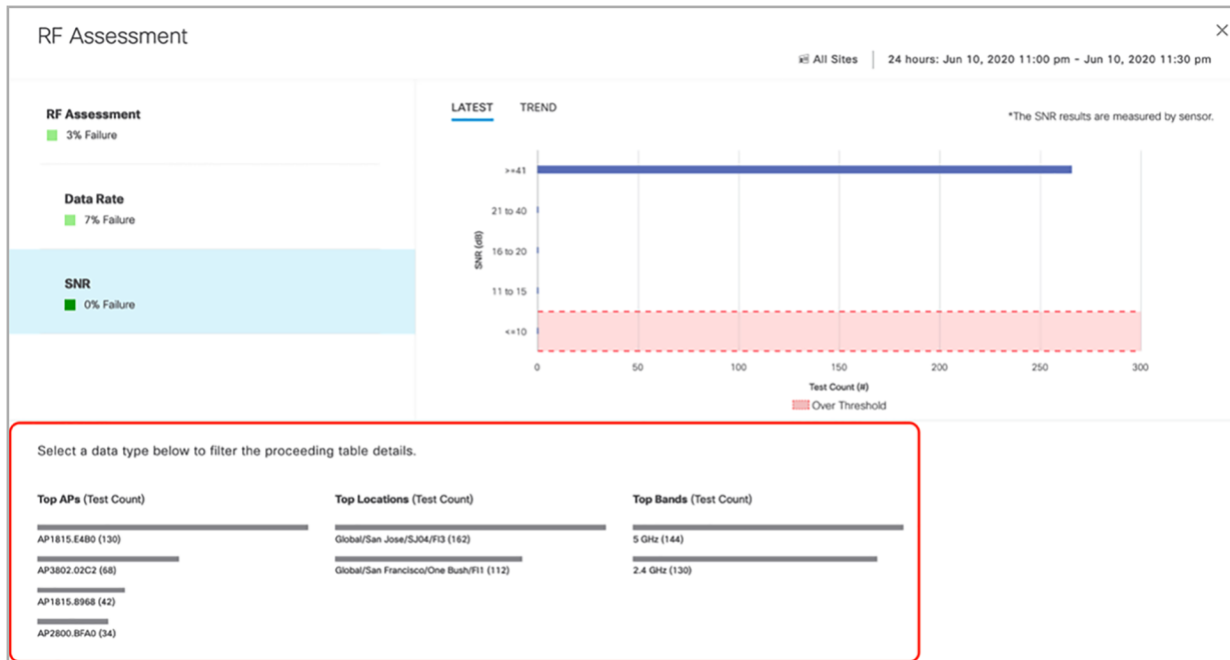

Figure 86.
- o. From this view, you can easily determine the Location, AP, or Band in which the failures are occurring by clicking any of the top N filters (**Figure 86.**).